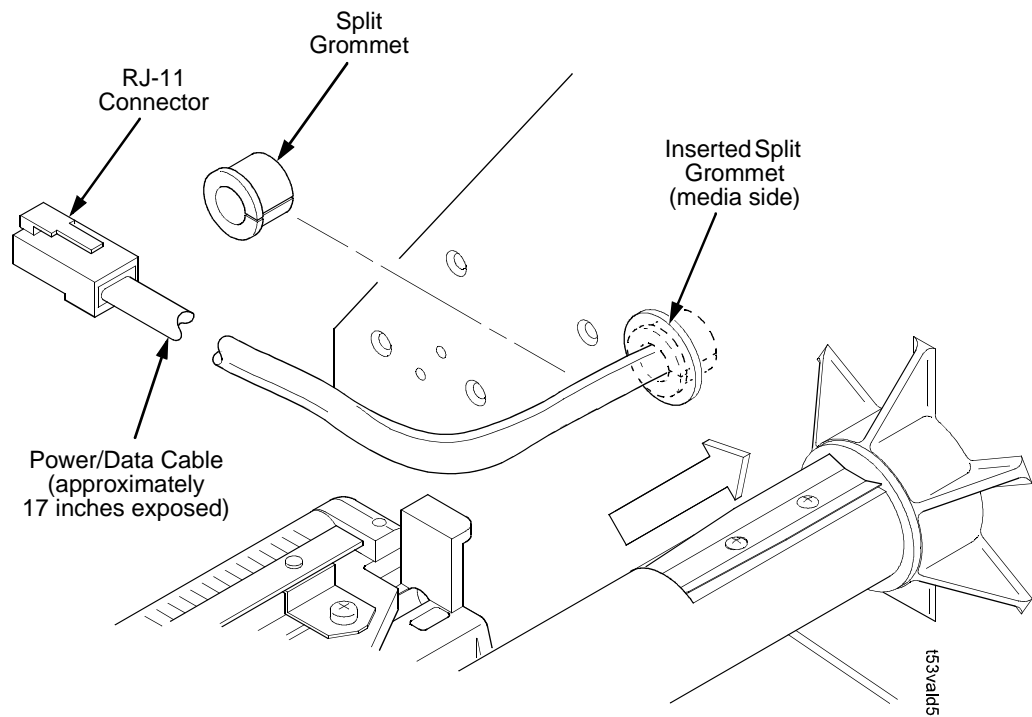

Figure 6. Adding the Grommet to the Power/Data Cable
10. On the media side of the printer, slide the split grommet onto the power/data cable and insert it into the frame opening. (Figure 6.)